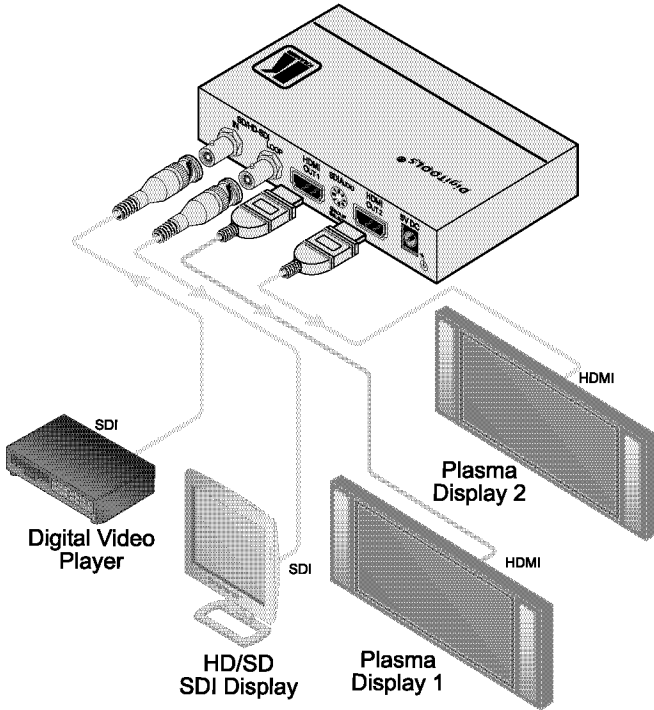

Figure 2: Connecting the FC-332 SD/HD-SDI to HDMI Converter/DA
To connect the **FC-332**, as the example in *Figure 2* illustrates, do the following1:
6. Connect the 5V DC power adapter to the power socket and connect the adapter to the mains electricity (not illustrated in *Figure 2*).